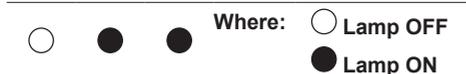

Fig. 8.10
- Press the reset button 6 repeatedly (5 times) until the lamps 9 give the indication as in Fig. 8.10 (gas type mode 2).